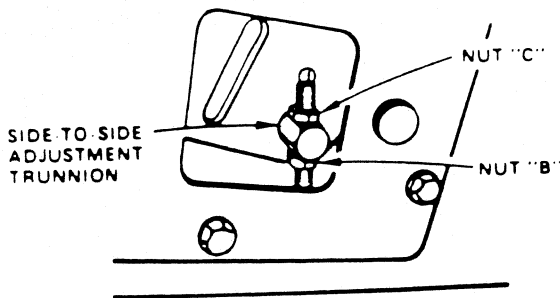

FIGURE 34
- c. If distance "A" needs to be changed, snap out access hole cover on L.H. side above footrest. Use 11/16" wrench on nuts "B" and "C" at side-to-side adjustment trunnion (Fig. 34).